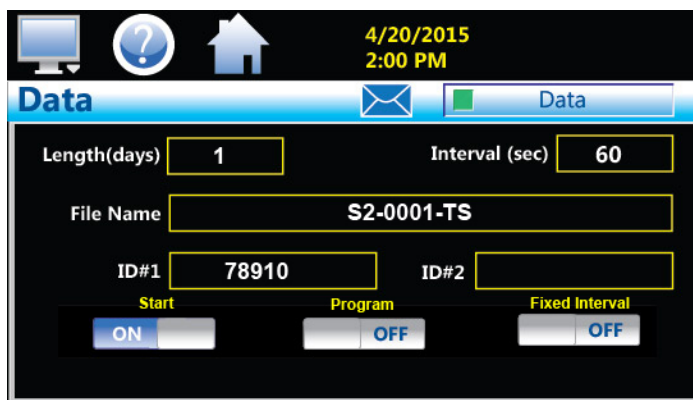

Fig. 60: Completed Data Screen Entries
4. When finished, toggle on the DATA button to start data logging. Its dark green box will turn light green, locking the entry boxes until it is toggled off. Data logging can also be started by toggling ON the “Start” option from this screen (Fig. 60).